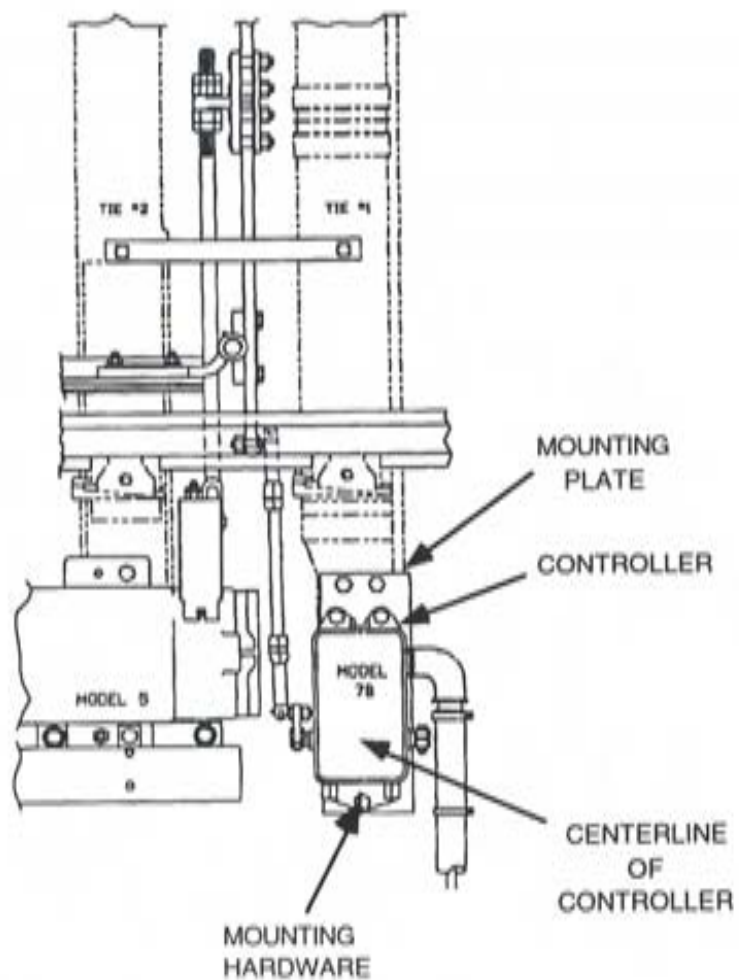

Figure 4-1. Layout of Model 5 Switch Machine and Model 7B Circuit Controller
1. Check layout to verify controller is securely fastened to the tie. See Figure 4-1, a typical switch and controller mounted to ties.